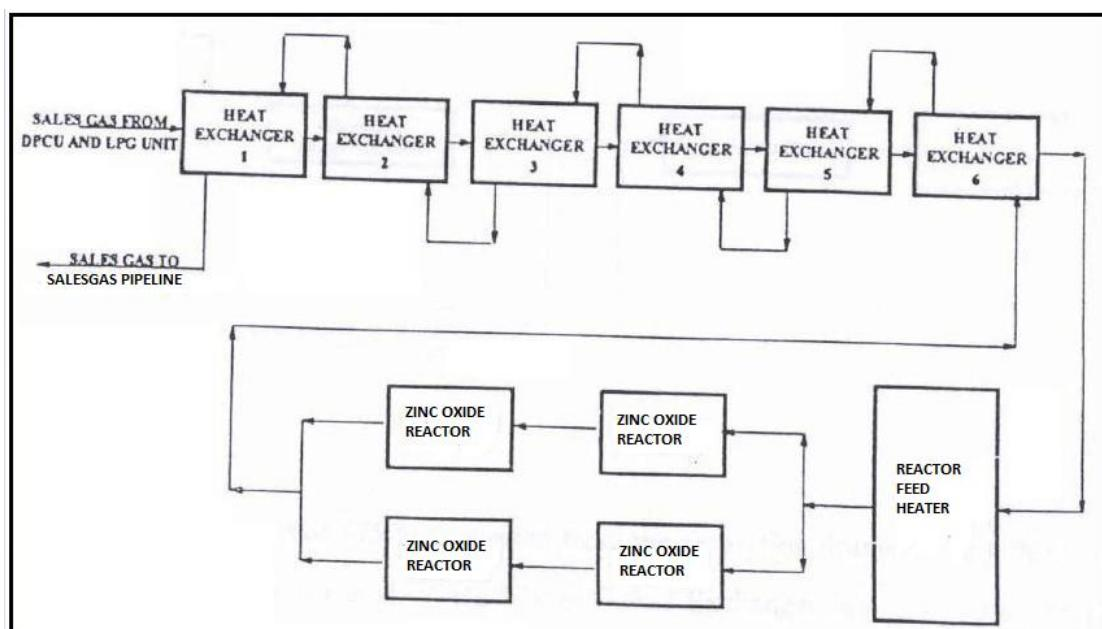

Figure 3 (b) : Blok flow diagram of Acid Gas Removal Unit (AGRU) /
- (b) Acid Gas Removal Unit (AGRU) as per Figure 3(b) is a system used in industrial processes to remove sulfur from natural gas.